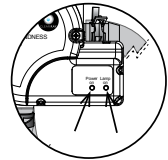

FIGURE 7
19. Once power is activated you can check the ballast, Figure 7, to see if the CLEARRAY System is functioning. The power on (red) light indicates that the CLEARRAY System is being provided power and should always be on. The lamp on (green) light indicates that UV bulb is activated.